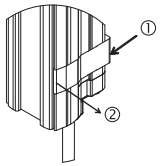

Fig. 4
- Push the Bracket upward. (Fig. 4 ①)
- Release the hook of the Bracket from the Spatter Protection Cover. (Fig. 4 ②)